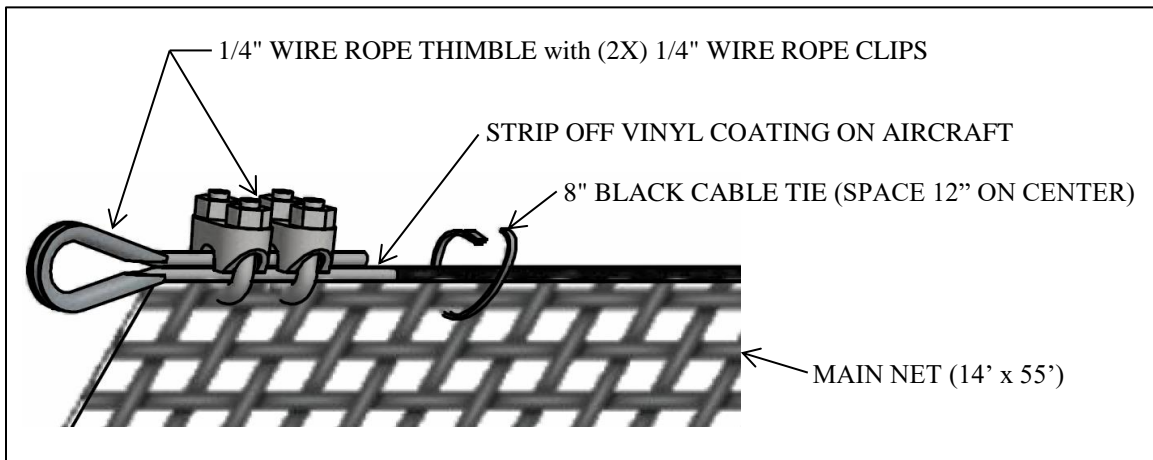

FIGURE: 6 – TYP HOIST END
- 3) Make up a loop, as shown in figure 6, on both ends of the cable.